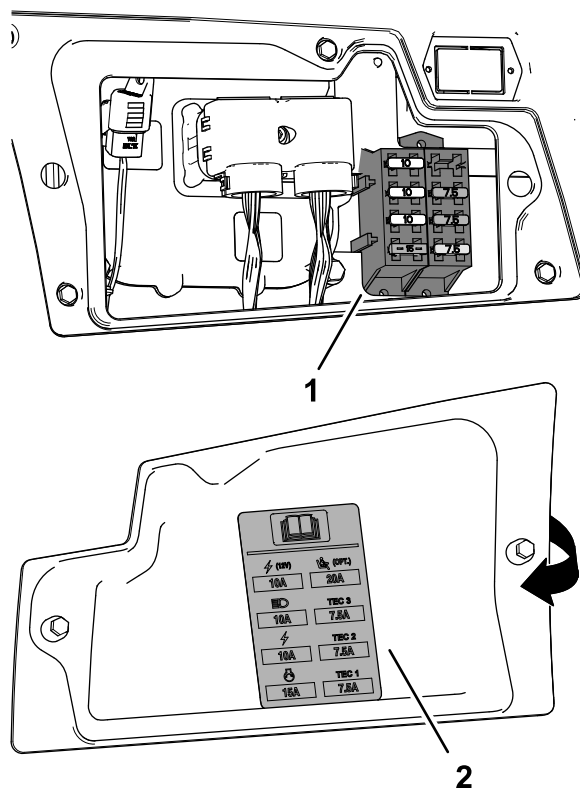

Figure 130
3. Replace the open fuse (Figure 130) with the same fuse type and amperage rating.